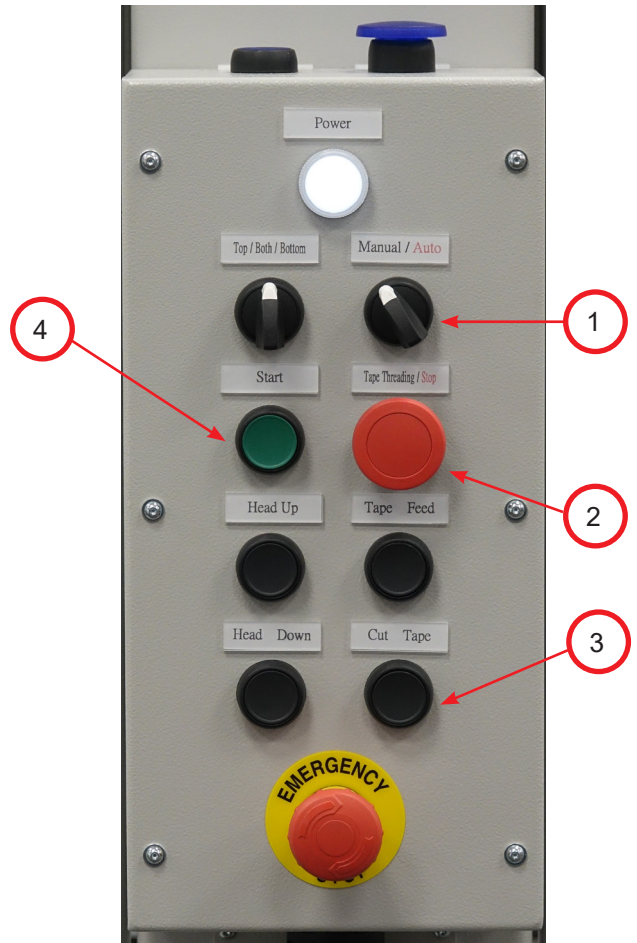

Figure 33: Operator Control Panel
1. Put machine in Manual Mode using Manual/Auto selector switch (Figure 33, Item 1).
6. Once tape has been passed under the pinch roller, engage pinch roller using Tape Threading/Stop button (Figure 33, Item 2).
7. Press down the Tape Feed button (Figure 33, Item 3) to allow machine to pass tape through tape shoe and feed out of the tape head.
8. If tape passes with no jams, remove tape from tape shoe guide, switch machine to Auto (Figure 33, Item 1), press Start button (Figure 33, Item 4), and hold for one second to begin machine operation. If you encounter a jam, see Clear Mode (Clear Jam) on page 36.